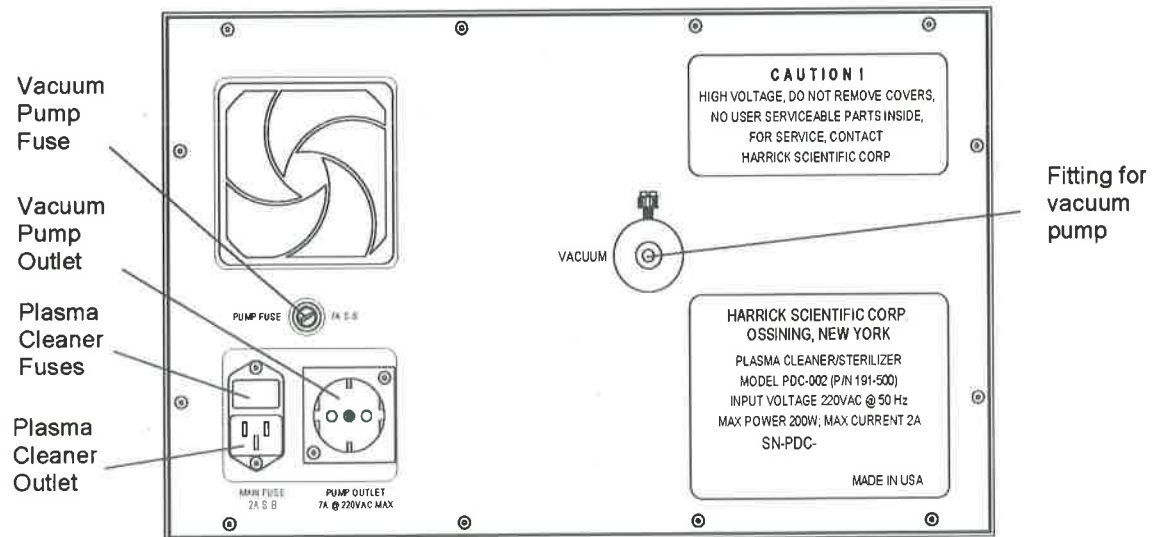

Figure 2 • Plasma Cleaner Back View (220V model shown here)
- Connect the fitting at the rear of the Plasma Cleaner (Figure 2) to the vacuum pump with ½" ID vacuum tubing.
- Plug the vacuum pump into the vacuum pump outlet on the back of the Plasma Cleaner (Figure 2) or into another outlet.
- Connect the fitting at the rear of the Plasma Cleaner (Figure 2) to a vacuum pump with ½" ID vacuum tubing and hose clamps over the tubing at each end.
- Plug the vacuum pump into the vacuum pump outlet on the back of the Plasma Cleaner (Figure 2) or into a second outlet.
- Connect the fitting at the rear of the Plasma Cleaner (Figure 2) to the vacuum pump with $\frac{1}{2}$ " ID vacuum tubing and hose clamps over the tubing at each end.